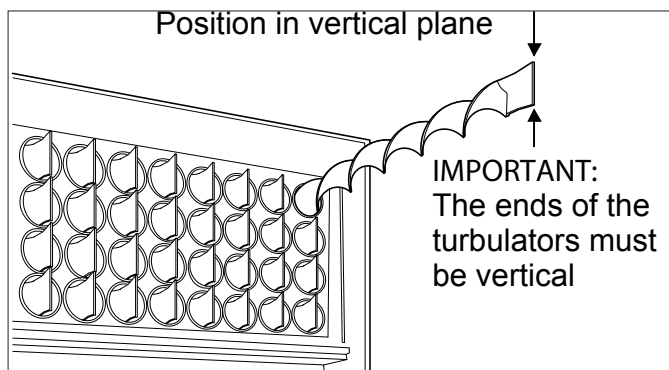

Figure 11-2: Turbulators
7. Pull out the spiral turbulators from the heat exchanger tubes. (Refer to Figure 11-2).